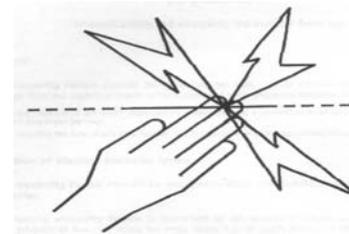

Fig. 1
- >The size of the warning sign must be at least 100mm x 200mm. The background colour of both sides of the warning sign is to be yellow. The inscription on the sign is to be black and shall be either the symbol shown (Fig. 1) or the words - "WARNING - ELECTRIC FENCE"